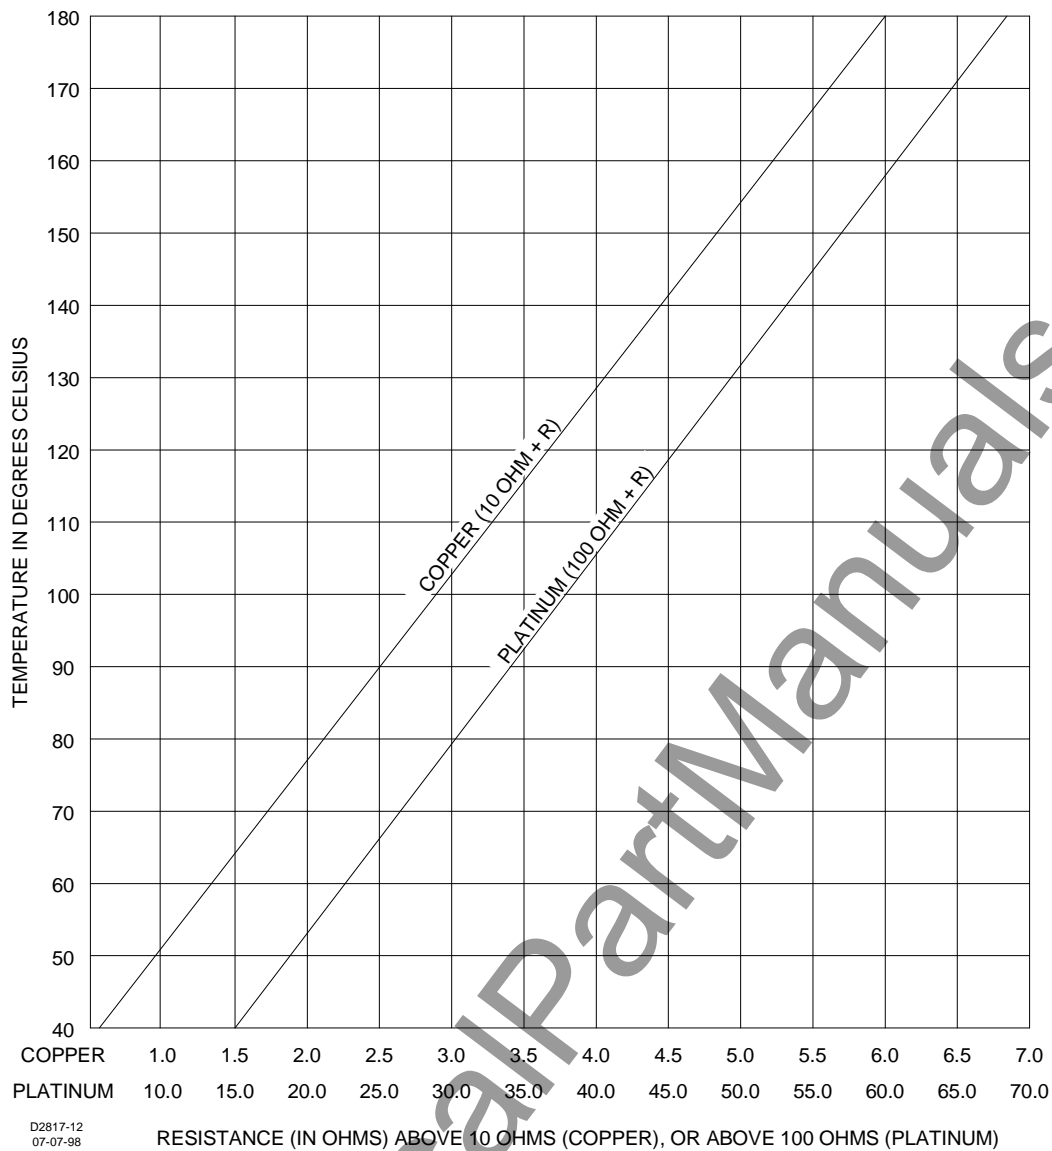

Figure 5-2. RTD Temperature/Resistance Graph
Step 9. Read resistance from decade box. Refer to Figure 5-2, Temperature/Resistance, to verify the temperature at which the trip occurred.
Step 11. On relays with output options J, L, M, R, S, and T, adjust resistor decade box for 0.96 ohms. For all other relays determine the resistance that corresponds to a level 10°C below the upper limit setting (using Figure 5-2), then adjust resistor decade box for the resistance value obtained. Observe that relay resets per indication chart below.
Step 9. Read resistance from decade box. Refer to Figure 5-2, Temperature/ Resistance, to verify the temperature at which the trip occurred.
Step 11. Determine the resistance that corresponds to a level 10°C below the lower limit setting from Figure 5-2, then adjust resistor decade box for resistance value obtained. Observe relay resets by the indication in chart below.
- Step 6. Refer to Figure 5-2, Temperature/Resistance, to obtain resistance value for lower trip point.
- Step 9. Refer to Figure 5-2, Temperature/Resistance to obtain resistance value for upper temperature limit trip point.
- Step 4. Refer to Figure 5-2, Temperature/Resistance, to obtain resistance value for upper trip point.
- Step 7. Refer to Figure 5-2, Temperature/Resistance, to obtain resistance value for lower temperature limit trip point.